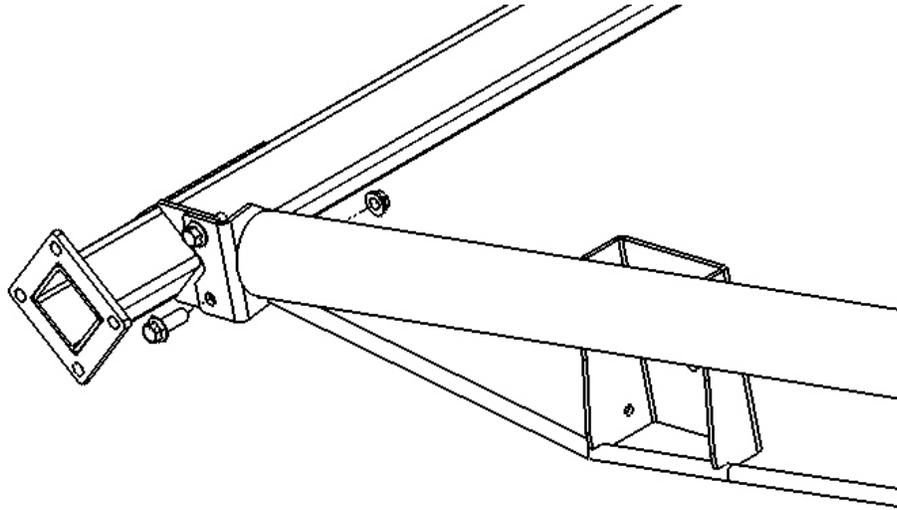

Fig. 31.1
First, place the axle under the auger tubes in the middle of the tubes. Attach the carriage arms to the axle as shown in fig. 31.1. Fasten the carriage arms to the axle using (4) 1/2" x 1-1/2" flange bolts and nuts.